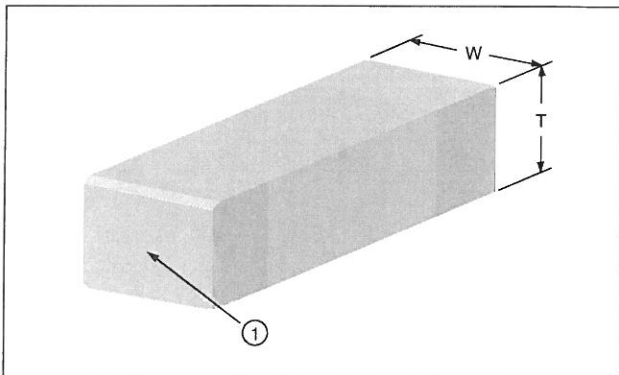

Figure 9-3
- Metallization loss on the terminal end face exposing the ceramic, Figure 9-3 (1).